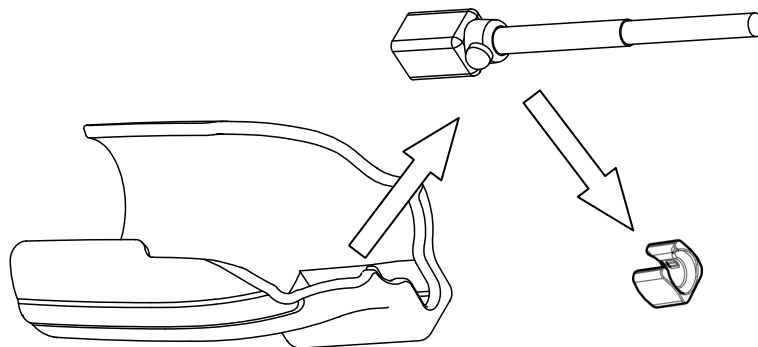

Fig. 6 How to release the Magnetic sensor from the Magnetic sensor attachment
- 2) Release the magnetic sensor from the magnetic sensor attachment as shown in Fig. 6 and release the spacer from the magnetic sensor.